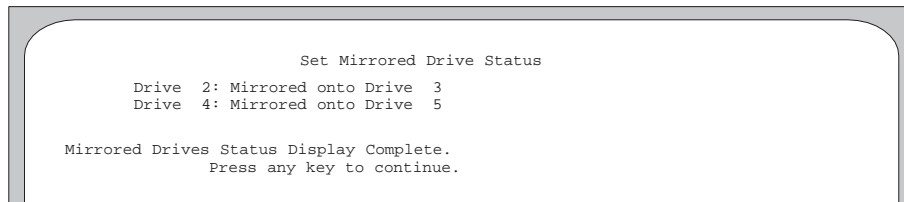

Figure A-18. Set Mirrored Drive Status Screen.
1. From menu 20, access the Drive Install Utilities, then the Global Message Redundancy utilities, then the Display Mirrored Drives option. The Set Mirrored Drive Status screen appears, as shown in Figure A-18.